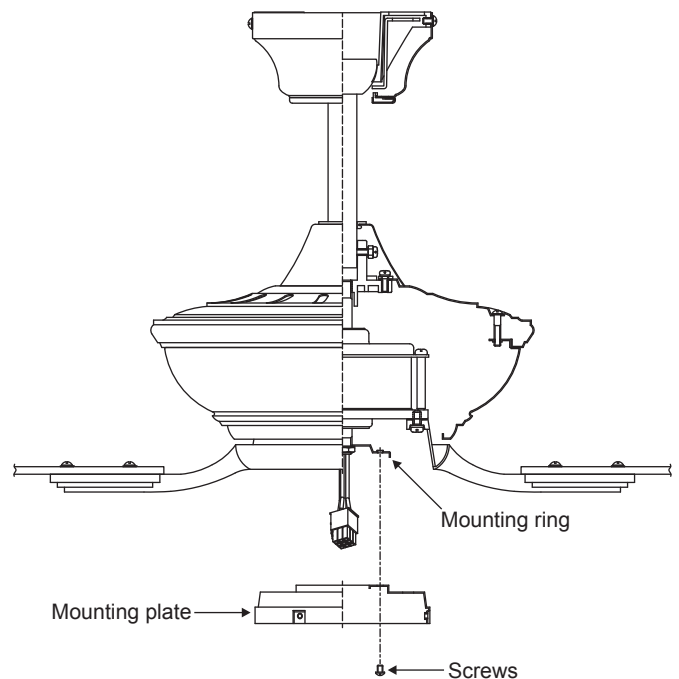

Figure 17
Step 2. Place the key holes on the mounting plate over the 2 screws previously loosened from the mounting ring, turn mounting plate until it locks in place at the narrow section of the key holes. Secure by tightening the 2 screws previously loosened and the one previously removed. (Fig. 17)